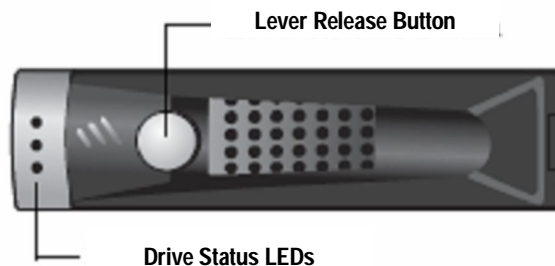
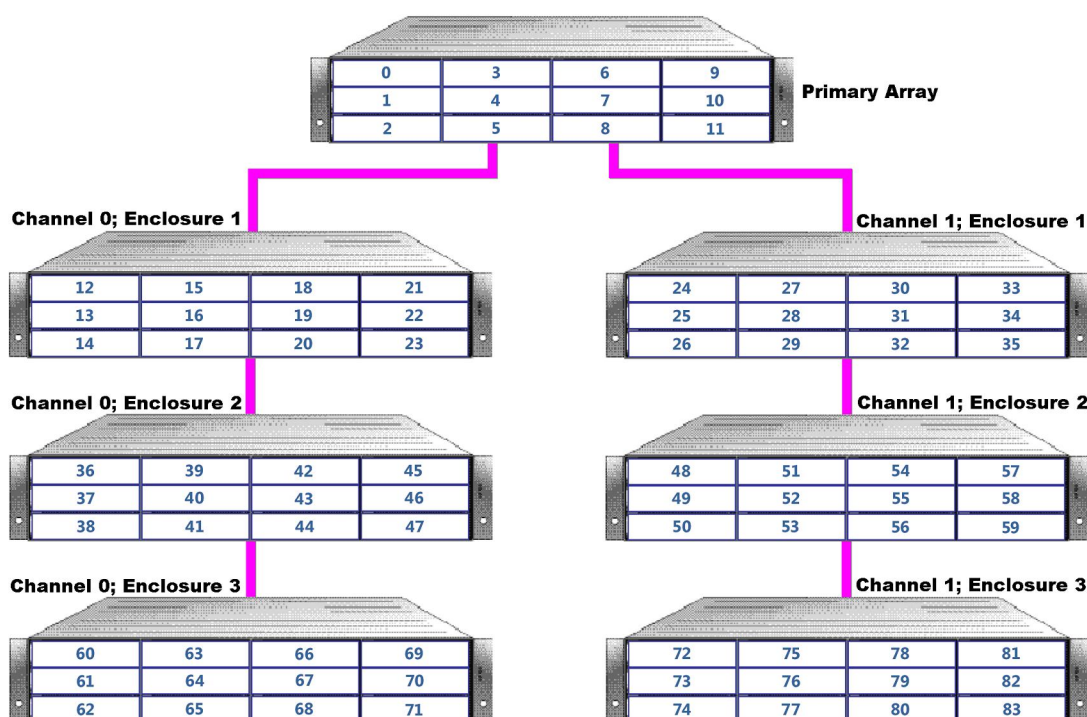

Figure 4-2. Close-up View of the Lever Release Button and Status LEDs on a Drive Carrier
Figure 4-3. Drive Numbers on the Primary and Expansion Arrays
- Drive carriers - drives are mounted on a drive carrier. Drive carriers have a push-button lever for installing and removing drives, and three status LEDs (see Figure 4-2 and Table 4-2). Each carrier has a corresponding drive slot number (see Figure 4-3). Filler panels must be installed in all drive slots that are not occupied by a drive.